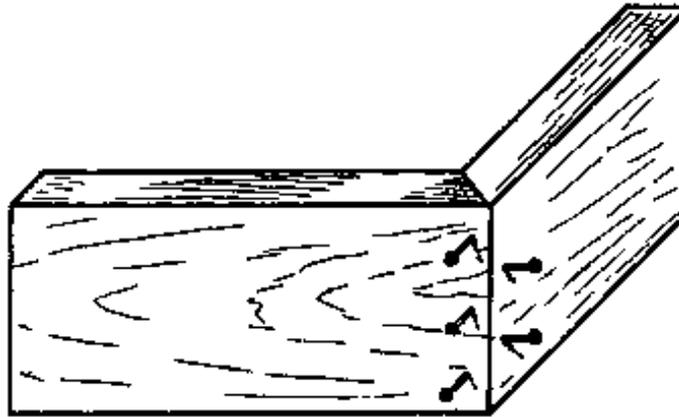

Fig. 2
**The ends of the pieces are mitred (cut at 45 degrees) across the thickness. The mitred ends are butted together and held in place with glue and nails (Fig. 2). This is a weak type of joint although it is stronger than the butt joint because it is nailed from two sides. Its advantage is that the end grain is not exposed to damage from water or insects, and it has a neater appearance.**